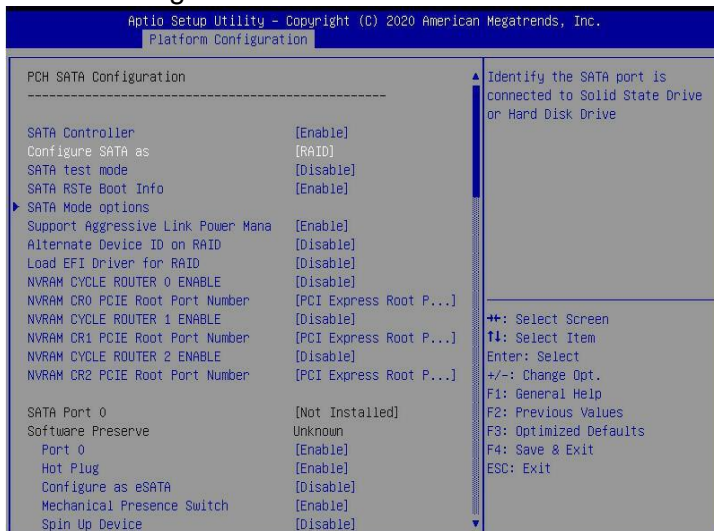

Figure 6-1
- b) Move to the PlatForm page -->PCH Configuration-->PCH SATA Configuration-->Configure SATA as. Configure SATA to RAID mode, as shown in Figure 6-1.
✧ Figure 6-1 Configure SATA to RAID mode: